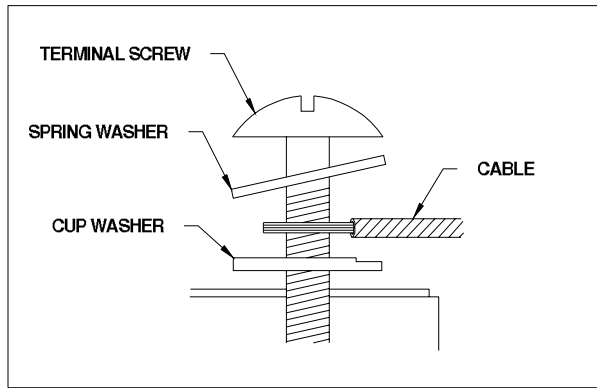

Figure 4. Ring or Spade Terminal Connectors
- The wire used to interconnect the solar modules may be single or two conductors, from 14 AWG (2.08 mm²) up to 10 AWG (5.26 mm²) gauge stranded copper wire, in a "SUNLIGHT RESISTANT" jacket UF cable. This cable is suitable for applications where wiring is exposed to the direct rays of the sun. The maximum and minimum outer diameters of the cable that may be used with the cable connector are 8 mm and 6 mm respectively (Figure 4).